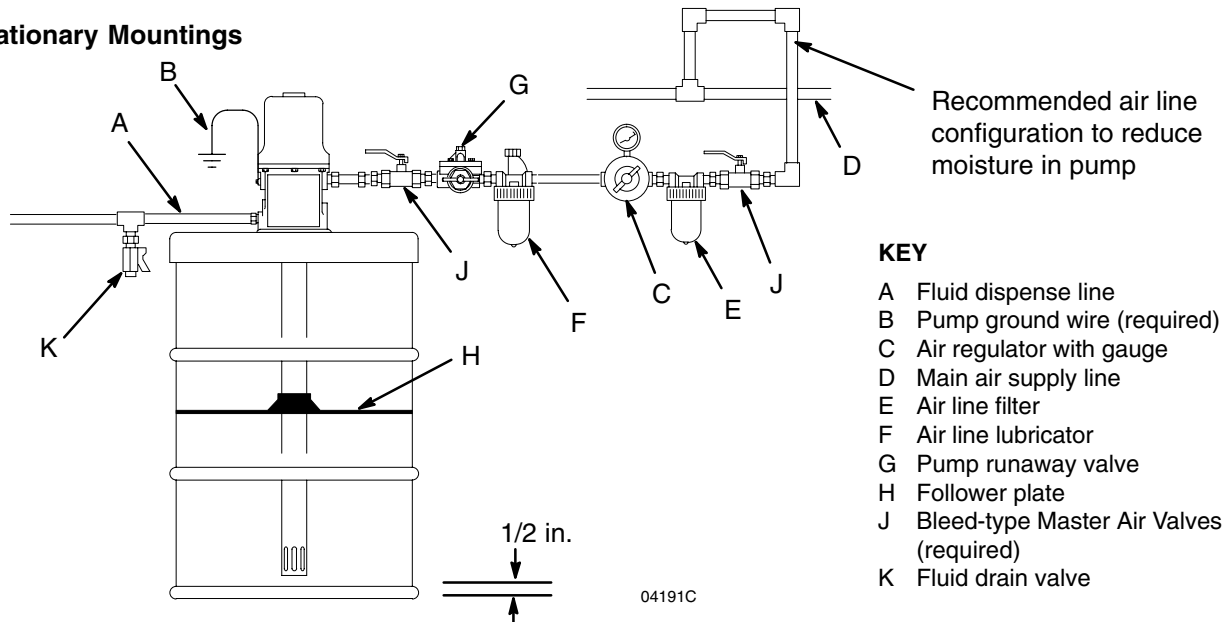

Fig. 2
See Fig. 2 above.
**NOTE:** Install the air line accessories in the order shown in Fig. 2.
1. Install a pump runaway valve (G) to shut off the air to the pump if the pump accelerates beyond the pre-adjusted setting. A pump that runs too fast can be seriously damaged.
2. Install an air line lubricator (F) for automatic air motor lubrication.
3. Install a bleed-type master air valve (J) to relieve air trapped between the valve and the motor (see **WARNING** at left). Order Part No. 107142.
4. Install the air regulator (C) to control pump speed and pressure (see **WARNING** at left).
5. Install an air line filter (E) to remove harmful dirt and contaminants from your compressed air supply.
6. Install a second bleed-type master air valve (J) upstream from all other accessories, to isolate the accessories for servicing.